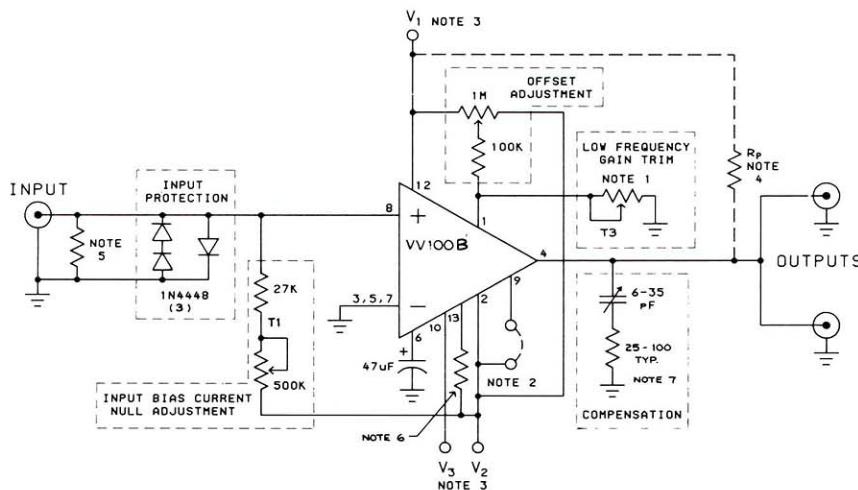

Figure 1
6. See Figure 1.
Figure 1 shows a typical application circuit for the VV100B and is the circuit on the LeCroy VV100BTB amplifier. Here input trim T1 is accomplished by the series combination of a 27 kΩ resistor and a 500 kΩ potentiometer. Trim T2 is set by the 1 MΩ potentiometer and series 100 kΩ fixed resistor. A fixed resistor to ground sets the low frequency gain trim (T3). High frequency compensation is set by the 51 Ω, 6-35 pF combination.
Proper termination and protection must be supplied to the input. In most cases, input to the amplifier will be via 50 Ω cable. In this case, a 50 Ω resistor from the input (pin 8) to ground should be employed. In addition, three 1N4448 or equivalent diodes to ground as shown in Figure 1 will provide overload protection. The input DC level must be trimmed to zero by a trim resistor (T1) to a negative supply. Where the best DC stability is required, this supply should be regulated. Note that fluctuations in the input offset will appear at the output amplified 10 fold.
A current of about 30 mA from +6 V must be supplied at pin 12. In addition, two negative supplies, V_2 and V_3 , are recommended. V_2 (pin 2) requirement is 20 mA at a voltage between -6 and -12. V_3 (pin 10) is to be set 12 V more negative than V_2 . For example, with V_2 set to -12 V, V_3 should be -24 V. The VV100B requires about 8 mA from the V_3 supply. Proper bypass requires at least 6.8 μ F tantalum capacitors to ground from pins 2, 12, (and 10 if three voltages are used) and 47 μ F on pin 6. Minimum length leads should be employed. Be sure to observe proper polarity. See Figure 1. Model VV100B can be operated with only two proper power supplies at the expense of risetime and linearity. For this configuration, tie pin 2 to pin 9, set $V_2 = -6$ V to -12 V, V_3 is omitted and $V_1 = +6$ V.